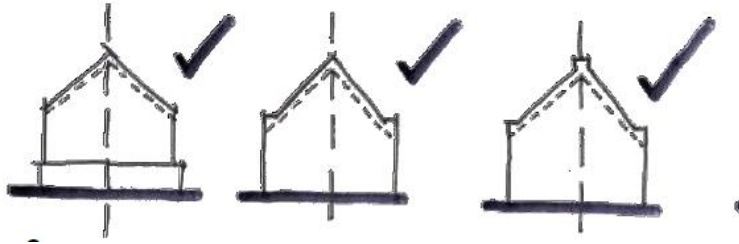

FIGURE 05: GABLES
- Only simple, straight line end gables to a building's major forms (with parapeted tops or close-cropped eaves) will be allowed. See FIGURE 05